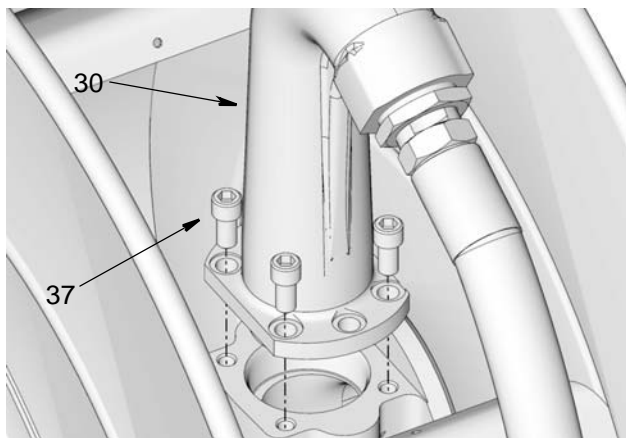

FIG. 61: Low Pressure Model Shown
- d. Install outlet (30) to spool. Replace and tighten all bolts (37) securely. Torque bolts to 24 to 30 ft. pounds (32.54 to 40.67 N.m) (FIG. 61).